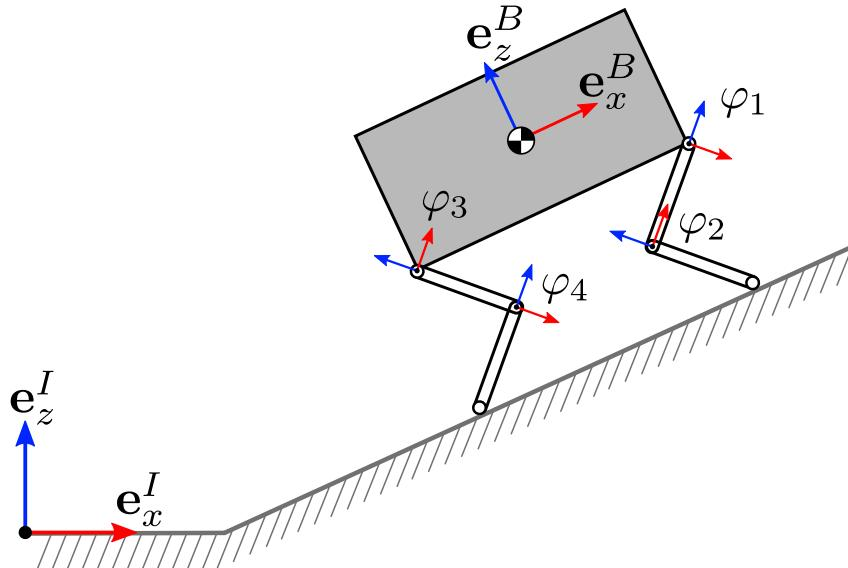

Figure 3: Planar legged robot standing on an incline.
In this exercise, consider the case of a planar legged robot with two legs and 4 joints overall. The robot consists of a rectangular base and legs comprised of links of same length, as is shown in Fig. 3. The configuration of the robot is parametrized by a vector of generalized coordinates:
- (1) The robot in Fig. 3 can have different contact configurations (without slipping). Analyze the number of independent contact constraints and the number of uncontrollable degrees-of-freedom in each case. Fill in the table below. [1 pt]
- (3) The equation of motion for the system in Fig. 3 can be written as $\mathbf{M} \ddot{\mathbf{q}} + \mathbf{b} + \mathbf{g} + {}_I \mathbf{J}_c^\top {}_I \mathbf{F}_c = \mathbf{S}^\top \boldsymbol{\tau}$. [1 pt]